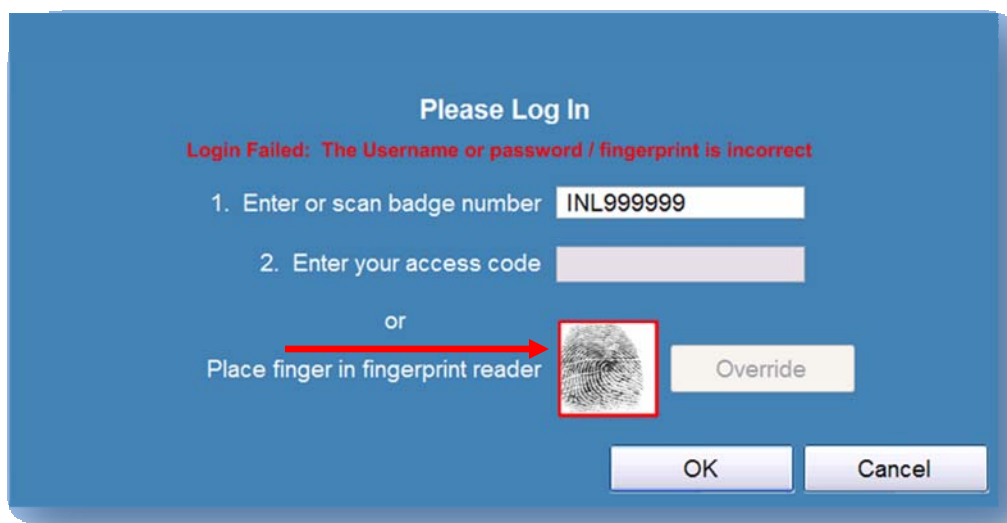

Figure 3-2: Login Failed Message
- (4) If a fingerprint is captured and matches the data on file the software will advance to the next screen.
- (5) If a **red line** is displayed around the fingerprint image and **red message** is displayed “Login Failed”, a clear fingerprint was not captured. Make sure fingers are clean of grease/dirt and repeat steps above using other fingers that were collected, typically four fingerprints were collected. (See Fig 3-2 below).